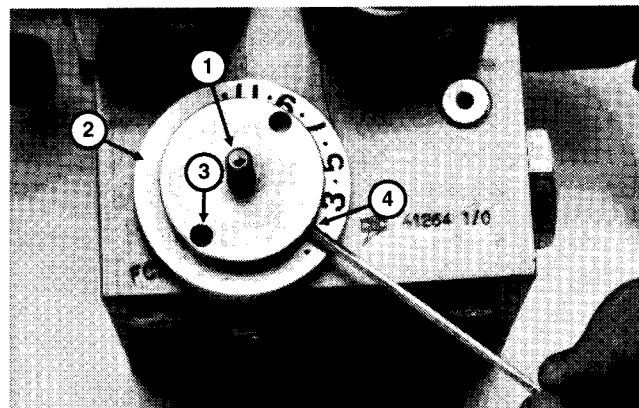

Figure 88
3. Turn threaded valve stem by hand completely clockwise to put valve in minimum flow position. Screw detent plate onto valve stem and tighten finger tight against locating plate, then turn plate counterclockwise while holding threaded valve stem in position until a ball hole aligns with last clockwise detent in locating plate (near No. 1 mark). Tighten set screw to secure detent plate. Valve stem should turn freely by hand (Fig. 88).
3. Secure the flange end of the pump (Fig. 88, Item 23) in a vise with the drive shaft (Item 24) pointing down.
4. Remove the four (4) capscrews (Item 3) and washers (Item 4).